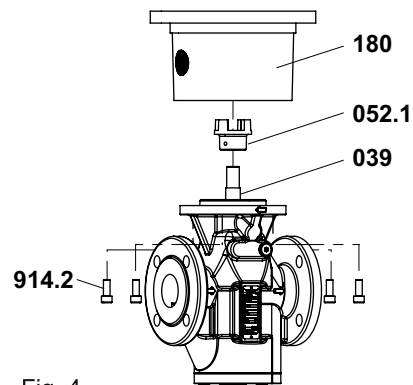

Fig. 4
2. Place the adapter housing 180 on the pump and tighten the connecting screws 914.2, see Fig. 4.